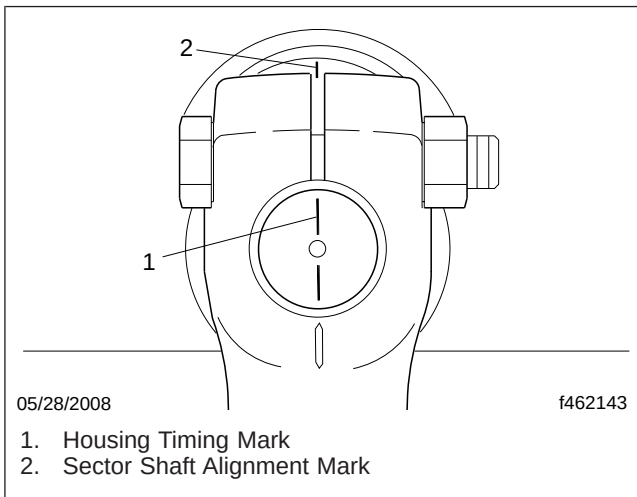

Fig. 2, Timing Mark Placement
2. Center the steering gear so that the timing mark on the sector shaft is aligned with the timing mark on the steering gear housing. See **Fig. 2**. Keep the steering gear centered as the installation continues.